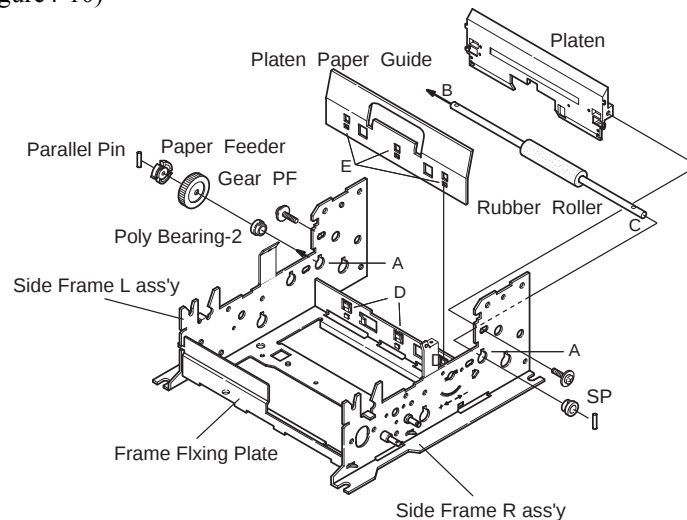

Figure 4-10. Separating Paper Feed Block
22. Remove Gear PF from the Rubber Roller.(Figure4-10)
23. Remove the SP from hole “B” on the Shaft Roller from the Frame Assembly. (Figure4-10)
24. Remove the Spring Roller and the Shaft Roller from the Frame Assembly. (Figure4-10)
25. Remove the RE(2.5). (Figure4-10)
26. After disassembling the Platen Paper Guide From Hook “D” of the Frame Fixing Plate, disassemble the Platen from the Frame Assembly.(Figure4-10)
27. Disassemble the Spring Pin in the hole “C”. (Figure4-10)
28. Disassemble the Parallel Pin in the hole “B”, the Paper Feeder and Gear PF from the Rubber Roller. (Figure4-10)
29. After disassemble the Poly Bearing-2, disassemble the Rubber Roller in the hole “A” of the Frame Assembly. (Figure4-10)
30. Disassemble the Side Frame “L”. “R” Assembly from the Frame Fixing Plate. (Figure4-10)